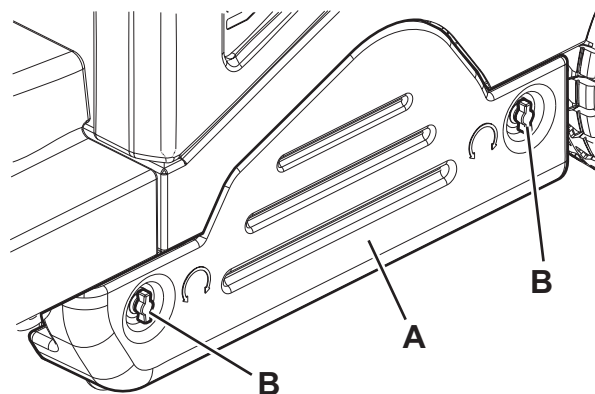

Figure 10
3. Turn the ignition key (51) to "0" and remove it.
4. Remove the left door (A, Fig. 10) by turning the fasteners (B).
12. Refit the left door (A, Fig. 10) and close it with the fasteners (B).